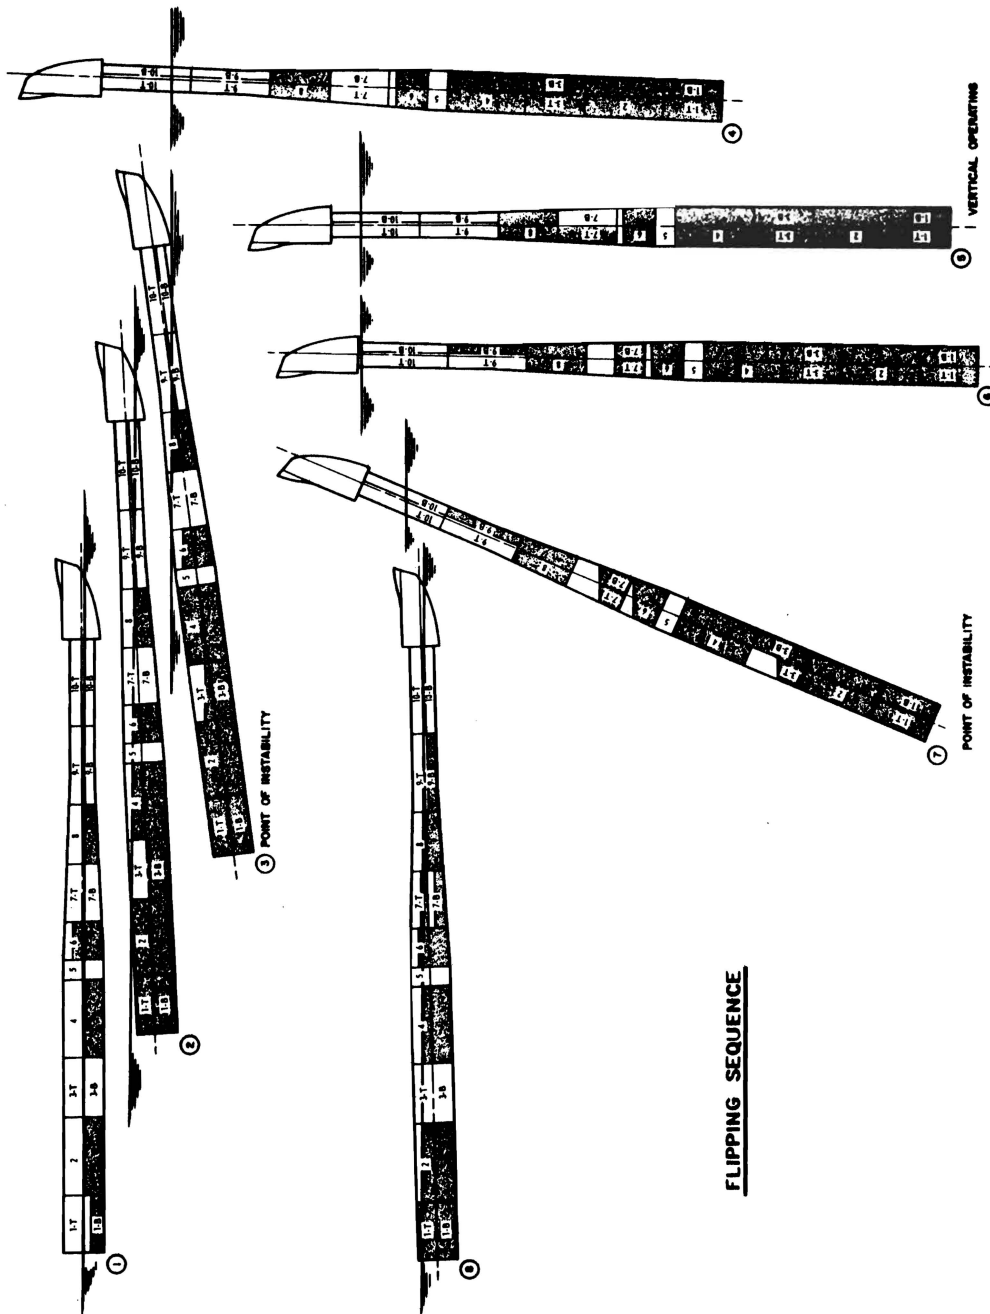

FIGURE 2
1. *FLIP* should be trimmed to correspond with Figure 2, (1). If more drag is desired, tank No. 3-B may be flooded to produce a trim aft of not more than 14' 6".
Figure 2 illustrates the general distribution of liquid load which has been arrived at as a good compromise between stresses in both the hogging and sagging conditions, and a draft and trim which makes the platform comparatively easy to handle on the end of a tow line.